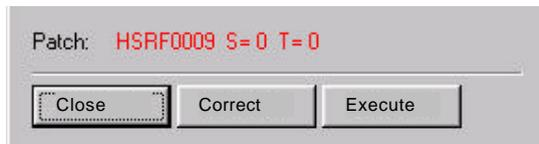

Figure 4-4
When you have clicked on all surfaces that are to be combined and have activated the <Execute> function in Fig. 4-4, you must enter the degree of continuity, polynomial degree and number of patches for the new surface in an input window.
- As soon as you click on the first patch, the window in Fig. 4-4 appears.